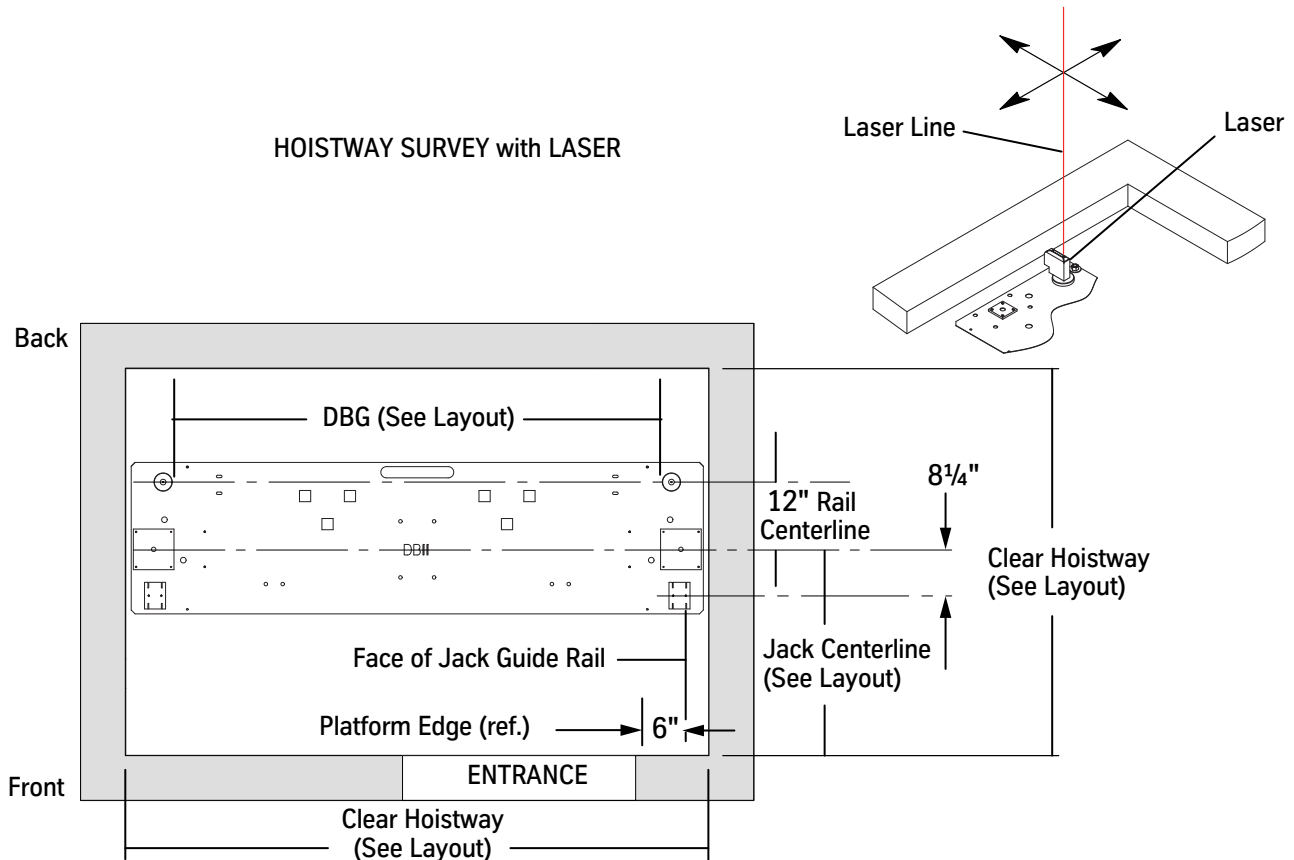

Figure 24 - Pit Template and Hoistway Laser Survey
4. Place a laser on each end of the template, and survey the hoistway. See Figure 24 on page 48.